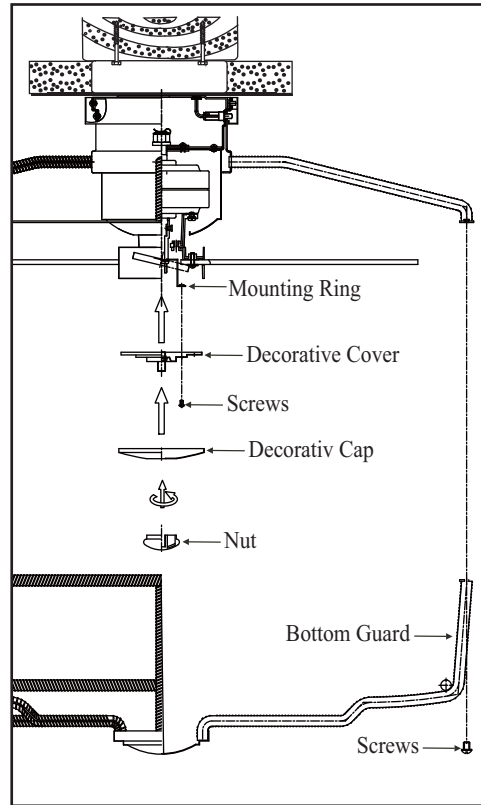

Figure 13
2. Place the key holes in the decorative cover over the two screws previously loosened from the mounting ring. Turn the decorative cover until the decorative cover locks in place at the narrow section of the key holes. (Fig. 13)